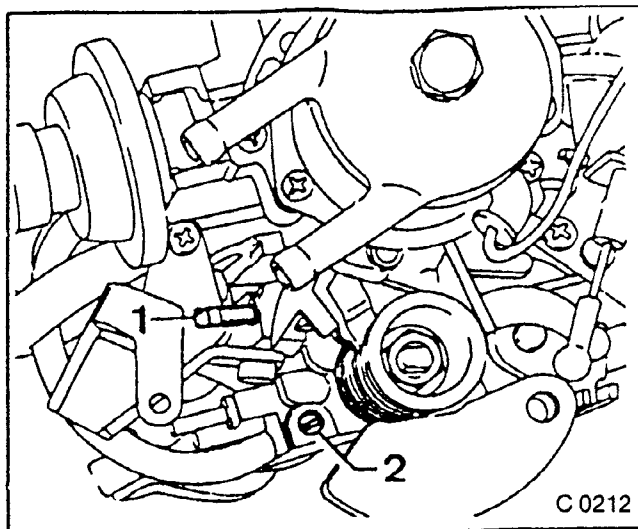

Fig. 192
1. Idle speed at adjusting screw (1).
2. CO content in exhaust at mixture adjusting screw (2) — see fig. 192.